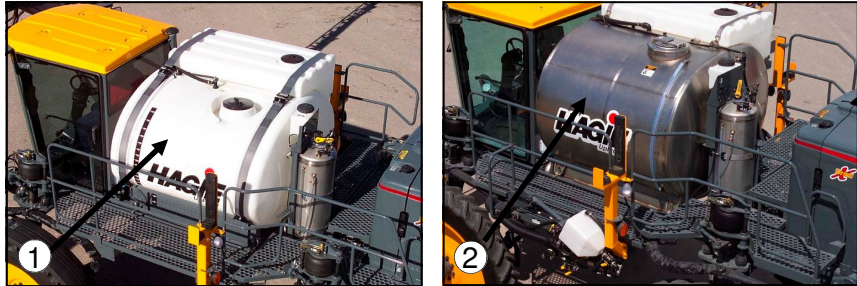

FIG. 4.31-1
SOLUTION TANK– You have the option of the poly tank (fig. 4.31-1, item 1) or the stainless steel tank (fig. 4.31-1, item 2), both are 1000 gallon capacity. Their functions are similar, the only notable difference being the plumbing of the tanks. The poly tank has an eductor type agitation system and the stainless steel tank has a sparge type agitation system.